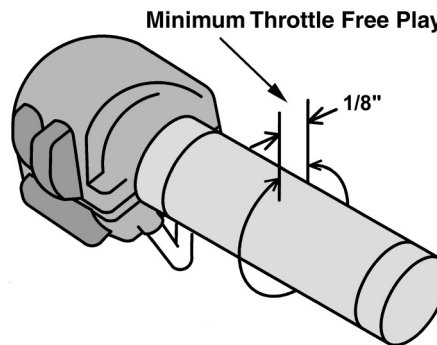

Figure 8
- B. After adjusting the opening cable, turn the handlebars to the right and adjust the throttle free-play with the closing cable to approximately 1/8" (Figure 8).